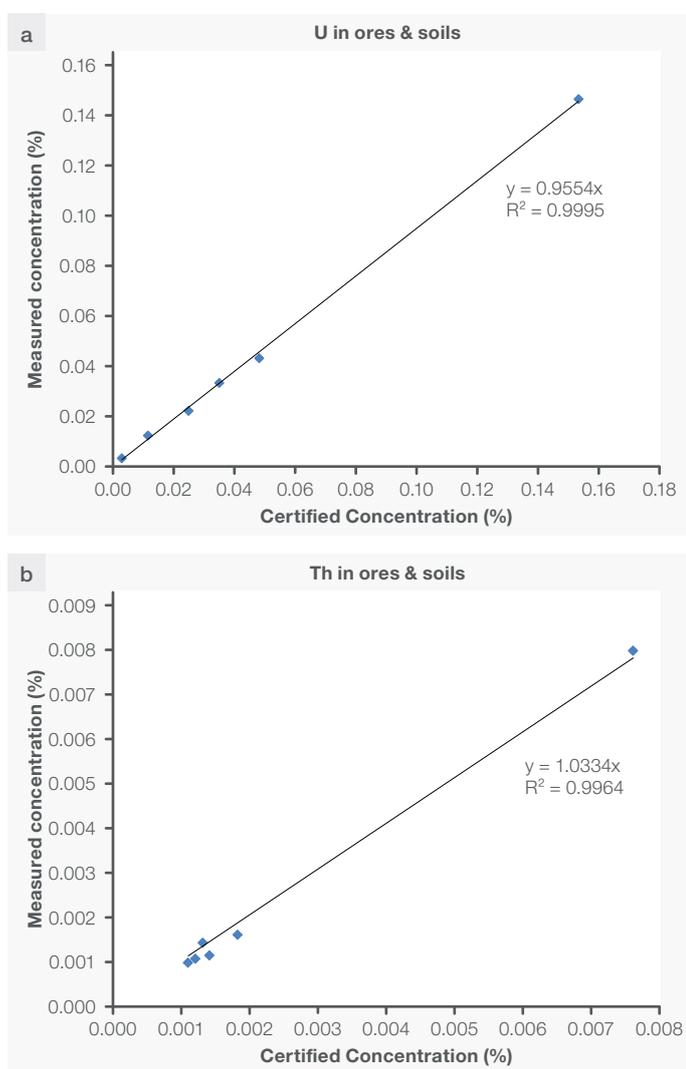

Figure 1. Verification of U and Th measurement accuracy on powdered ores and soil certified reference materials.
Handheld XRF (HHXRF) analysis can deliver fast and accurate results with little or no sample preparation in various stages of mining activity, from grass roots exploration to exploitation, ore grade control, and even environmental investigations. A broad range of elements from magnesium (Mg) to uranium (U) can be analyzed using Thermo Scientific™ Niton™ Handheld XRF Analyzers. The high-power X-ray tube with dynamic current adjustment and silicon drift detectors in Niton XRF analyzers enable users to obtain low detection limits, high accuracy, and fast data acquisition times. When combined with a test stand, the analyzers can also be used in the lab on prepared samples. The analyzer results can be verified using certified reference materials, as shown in Figure 1.